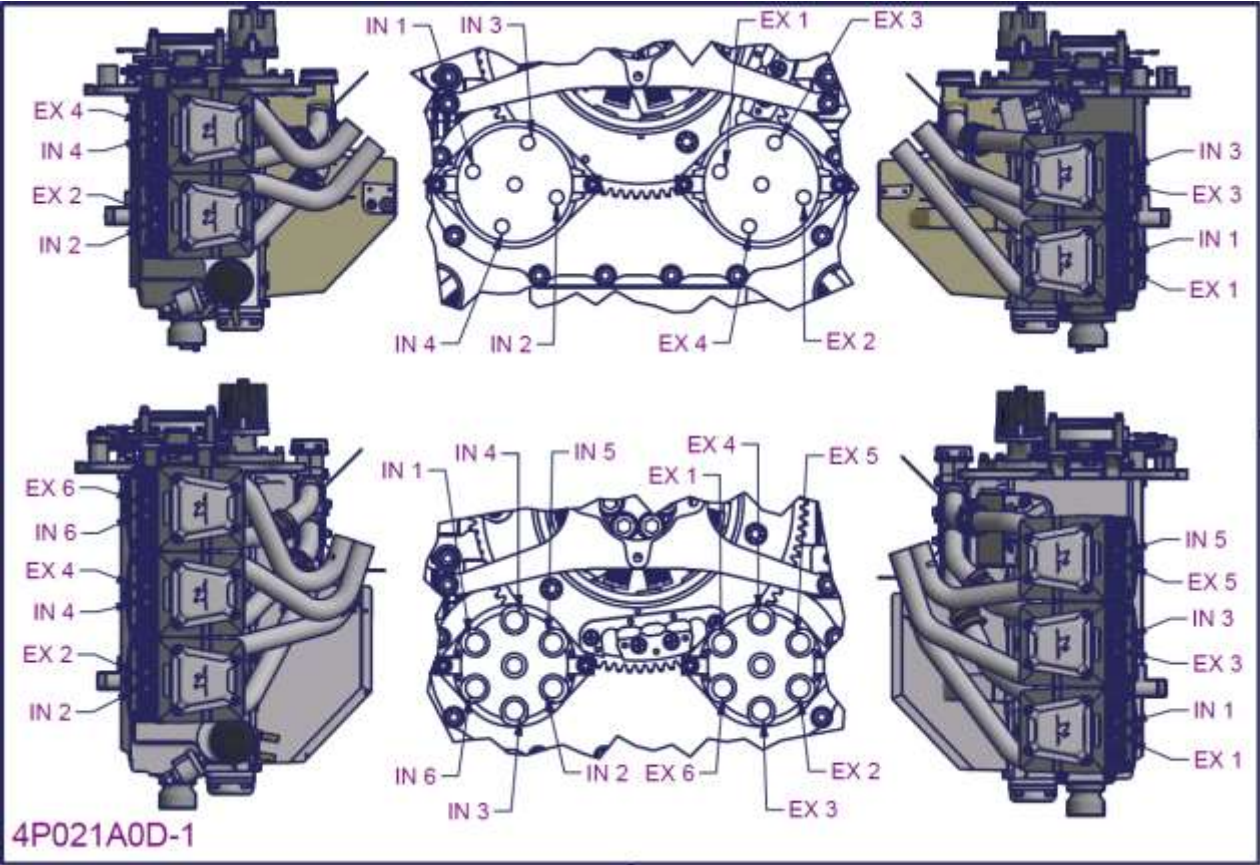

Figure 191 – 2200/3300 Ignition system installation 4
- Figure 191 provides a map of the ignition system with each distributor outlet labelled with the corresponding spark plug position. Each ignition lead must be connected between the correct distributor outlet and spark plug. ('IN' refer to the spark plug on the inlet side of the cylinder 'EX' is on the exhaust side of the cylinder).